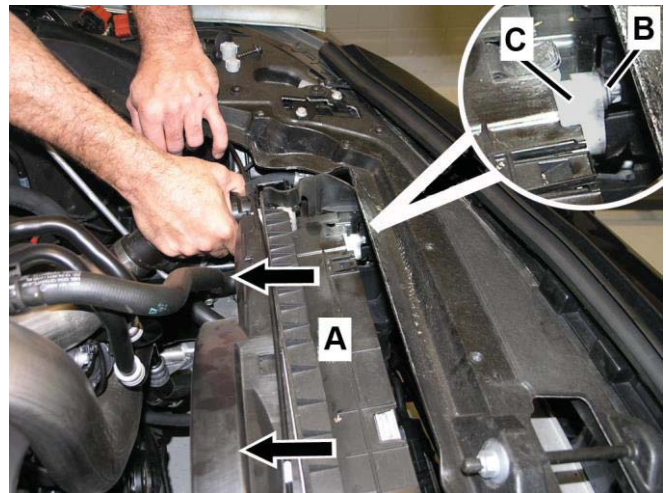

Figure 6
12. Insert extension (A, Figure 4) with socket through radiator grill (arrow) and loosen condenser refrigerant line bolt (B, Figure 6).
- Torque bolt (B, Figure 6) to 8 Nm when installing.
14. Carefully pull radiator assembly (A, Figure 6) in direction of arrows (Figure 6) then remove condenser refrigerant line bolt (B)
15. Route condenser refrigerant line (C, Figure 6) out through opening (arrow, Figure 7) in radiator side shroud (24, Figure 7) and remove from engine compartment.
16. Install **new** condenser refrigerant line (C, Figure 6) in reverse order.